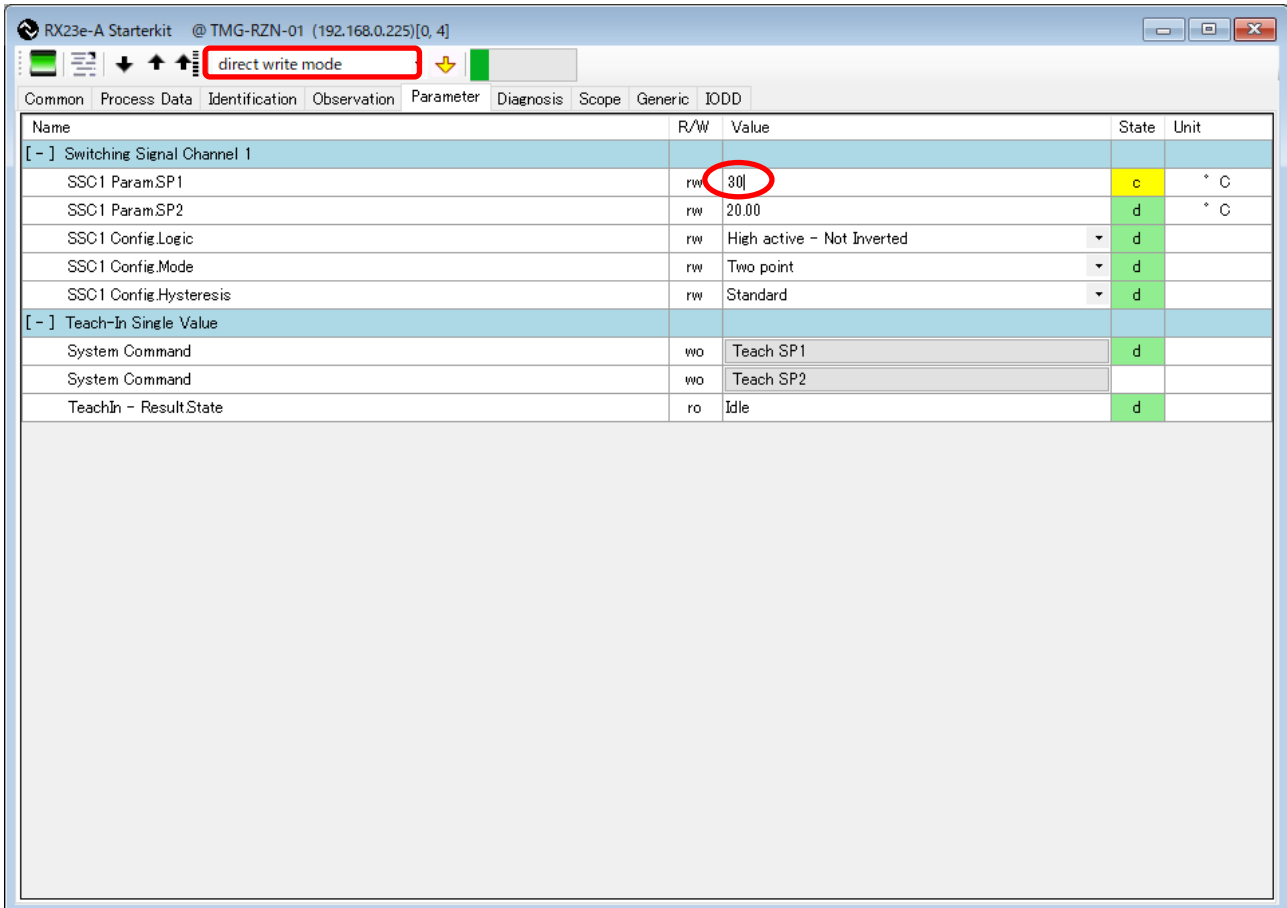

Figure 5-20 IO-Link Device Tool V5.1 – PE (Parameter setting in direct write mode)
5. The green shading of "Status" indicates that the parameter has been set on the device and synchronization has occurred between the master and the device (refer to Figure 5-20).